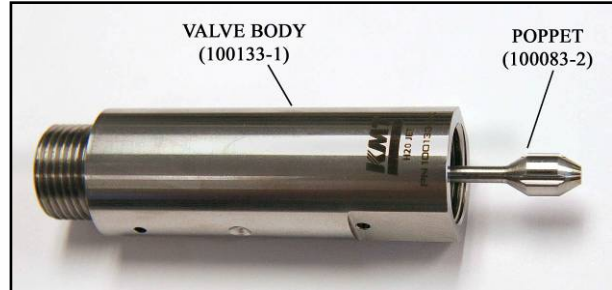

FIGURE 10
22. Slide the Poppet (100083-2), shaft end first, into the Valve Body (100133-1). Make sure that the shaft is lined up with the seal assembly. Using a plastic or wood dowel, press the Poppet tip through the seal assembly until it sits flush with the Valve Body inner face. **See Figure 10.**